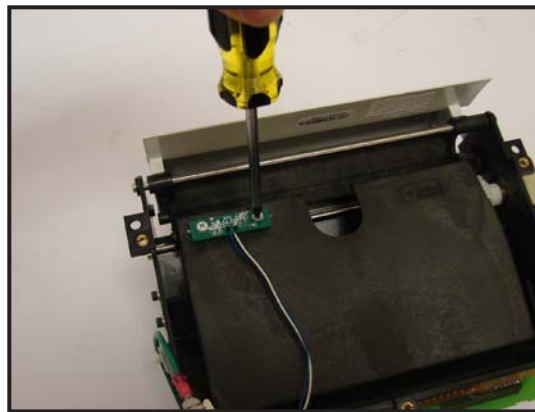

Figure 6-55
3. Turn over the recorder and use a Phillips screwdriver to remove the two screws which hold the sensor and housing to the paper tray (See Figure 6-55).